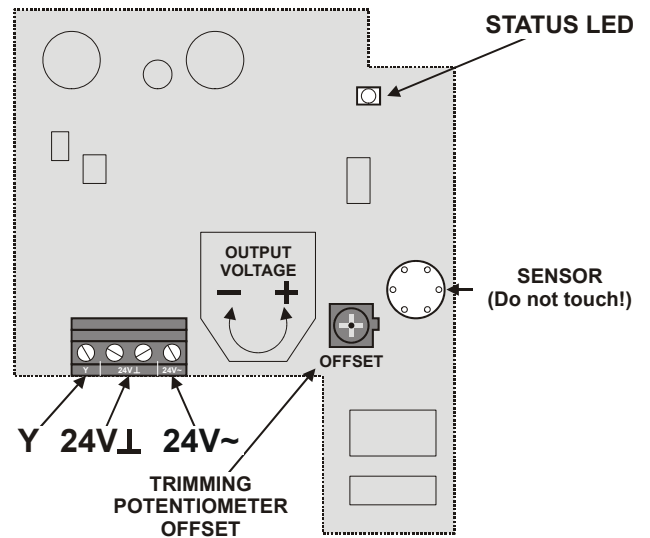

Fig. 5. Wiring Connection and Trimming Potentiometer
- b) Insert the wire in the required terminal location (see Fig. 5) and tighten the screw to complete the termination.
The output signal is adjusted using the trimming potentiometer located on the sensor board (see Fig. 5).
The offset of the output signal is increased or lowered by means of this potentiometer. The yellow status LED (see Fig. 5) indicates the corresponding signal strength: